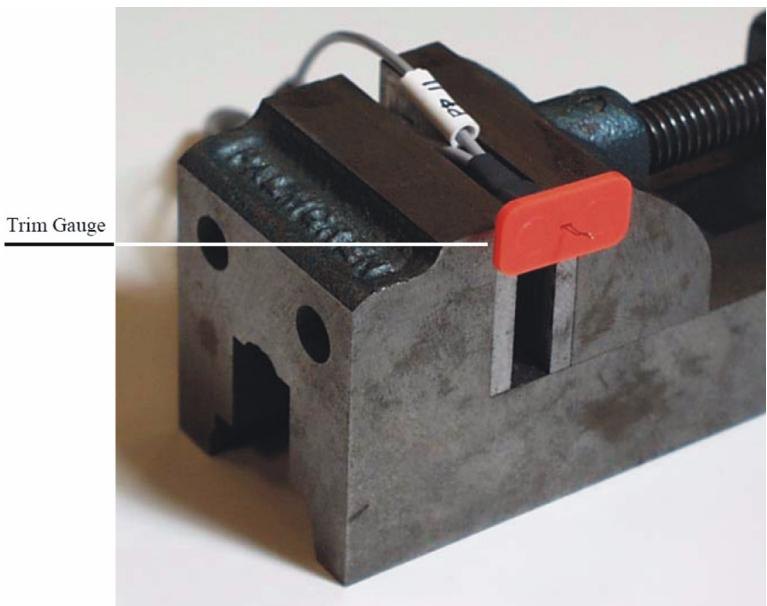

Figure 3-11 Use trim gauge to gauge the wire
- 8 Place the wires through the hole in the trim gauge with the probe head perpendicular to the trim gauge. Refer to Figure 3-11.